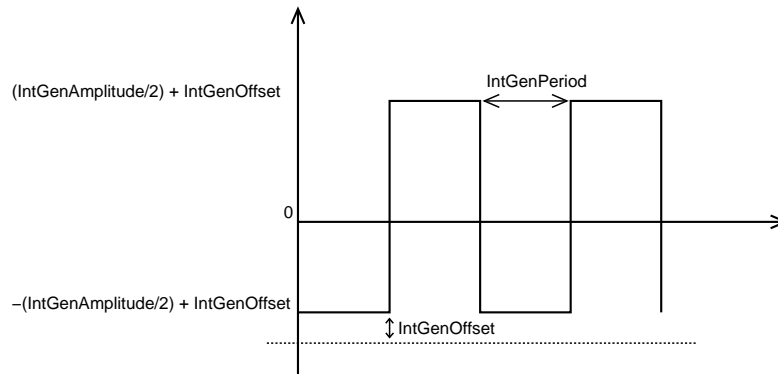

Figure 3.2: Square waveform
**Square Generator:** As displayed on figure 3.2, the mode 2 will generate a square wave signal for the SetPoint according to the IntGenPeriod, IntGenAmplitude and IntGenOffset registers. IntGenOffset is a signed value.